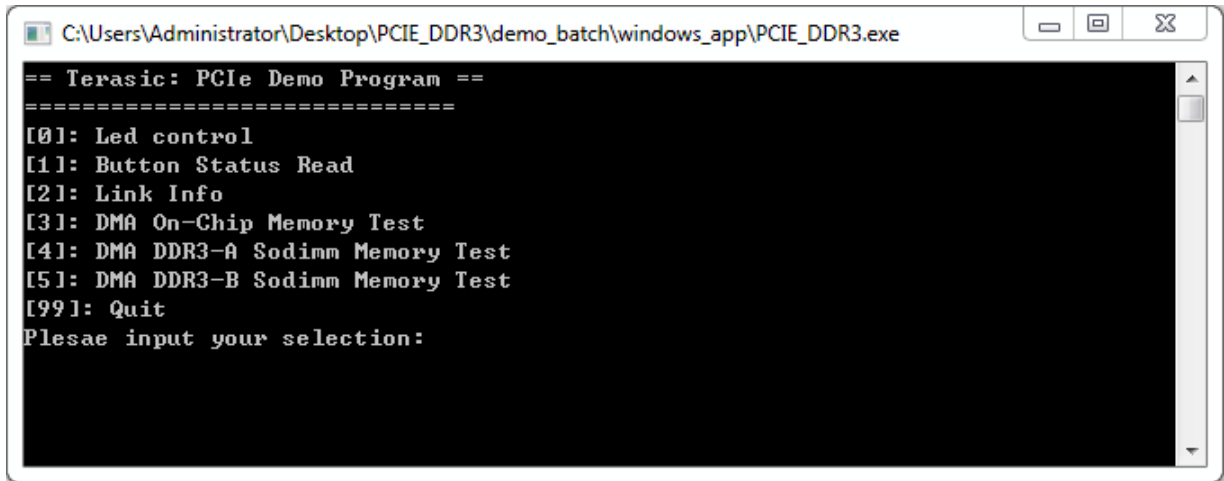

Figure 7-16 Screenshot of Program Menu
7. Goto windows_app folder, execute PCIE_DDR3.exe. A menu will appear as shown in **Figure 7-16**.